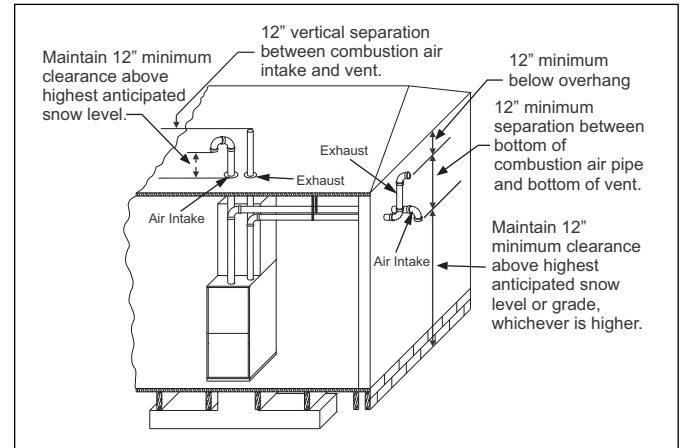

Figure 25 Termination Configuration - 2 Pipe
7. Direct vent systems must be installed so the vent and the combustion air pipes terminate in the same atmospheric zone. Refer to Figures 25 or 26.